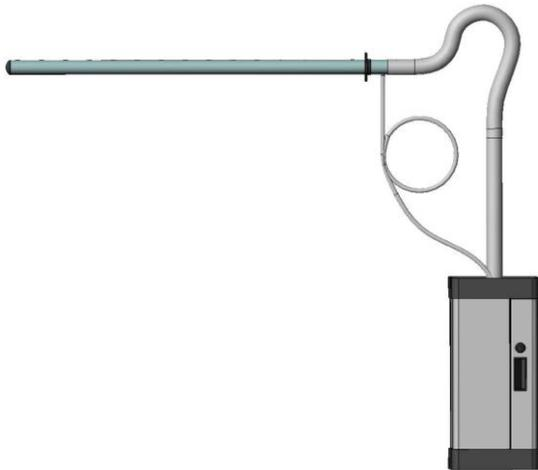
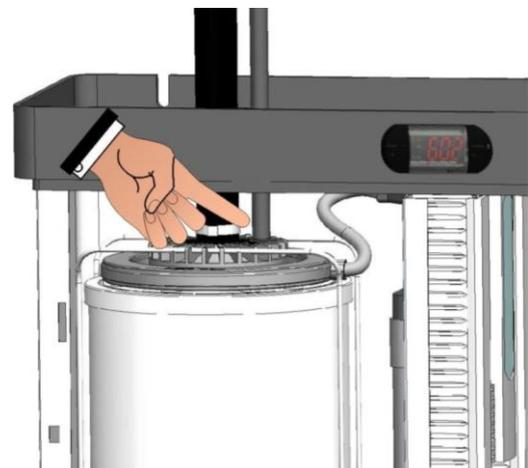

Fig.4
Fig. 5
2. If the steam distributor is positioned at a point higher than the humidifier and the steam tube generates a siphon (e.g. Fig. 4), the condensate recovery tube must be installed, directly discharging in the appropriate cylinder sleeve of the humidifier (Fig. 5) or in a water collection well. Condensate recovery is performed by connecting the PEGO **UMITUBODN10** tube, specific for this type of application, to the 10mm diameter sleeve of the steam distributor. In the path of the condensate recovery tube, from the steam distributor to the humidifier or from the steam distributor to the well, it is necessary to perform a siphon with a complete turn with a minimum diameter of 200mm; the siphon must also be filled with water before installation. This will prevent the steam outlet from the condensate recovery tube (fig. 4).